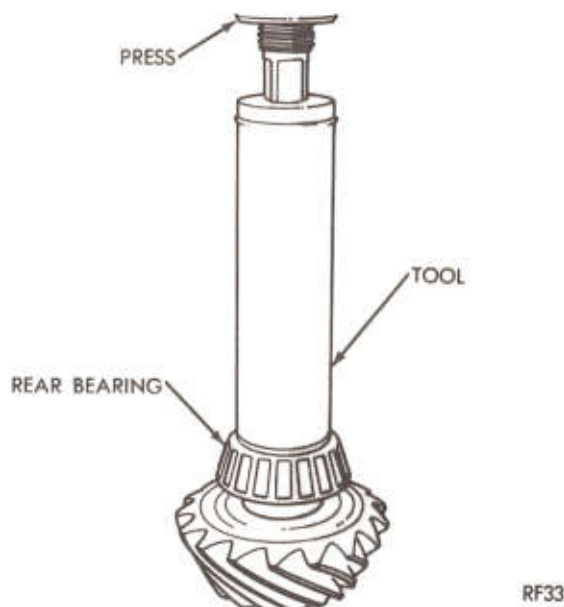

Fig. 20—Installing Pinion Bearing Cone
(2) Drive or press inner bearing onto shaft until it is completely seated using Tool W-262 (Fig. 20).